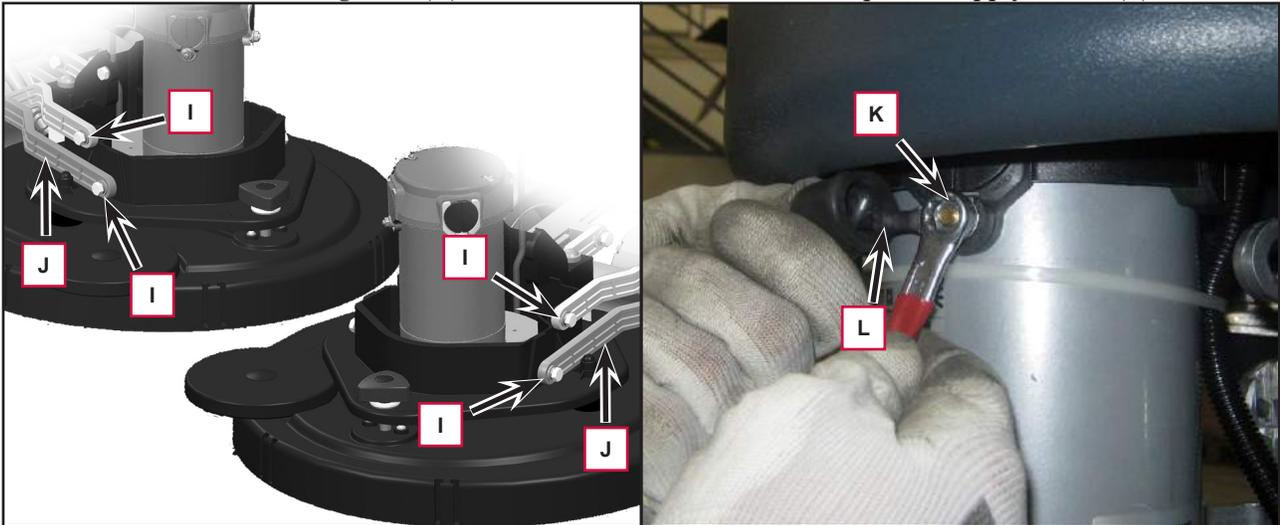

Figure 9
10. Remove the 4 screws (I) (Figure 9) fastening the deck raising levers (J), retaining the bushings and washers.
11. Unscrew the 2 retaining nuts (K) and disconnect the brush motor power supply cables (L).